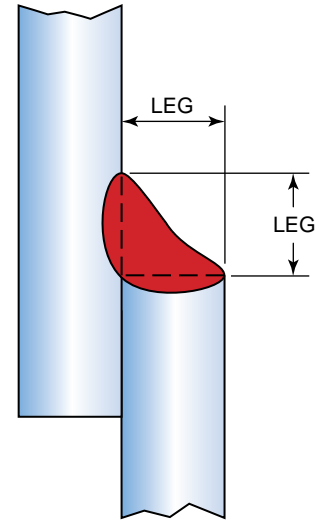

FIGURE 9-76 The horizontal lap joint should have a fillet weld that is equal on both plates.
The horizontal lap joint and the flat lap joint require nearly the same technique and skill to achieve a proper weld, **Figure 9-76**. Use the “J,” “C,” or zigzag weave pattern to make the weld. Do not allow slag to collect in the root. The fillet must be equally divided between both plates for good strength. After completing the weld, cool, chip, and inspect for uniformity and defects. Repeat the welds using all three (F) groups of electrodes until you can consistently make welds that are free of defects. Turn off the welding machine and clean up your work area when you are finished welding.